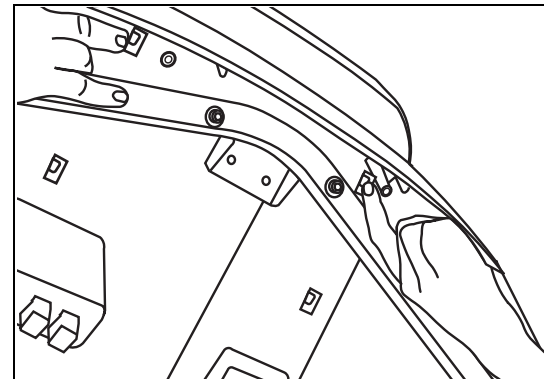

Figure 14: Separate display console face from console
7. Separate the display console face from the console. See Figure 14. Start at the top and work toward the bottom by pressing in on five of the tabs that secure it. This provides easier access to the 5-pin connector.